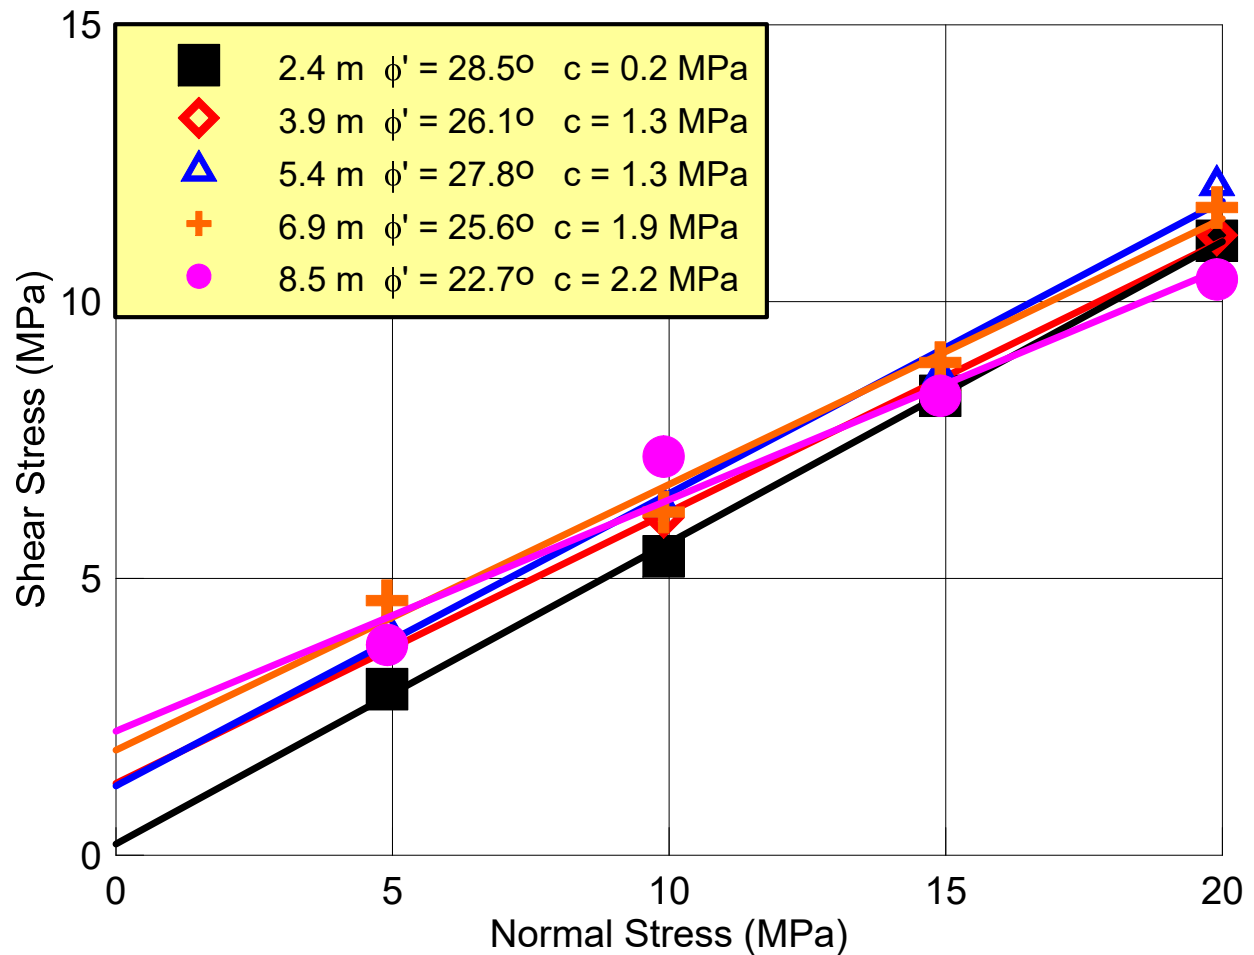

Figure 4: Typical Rock Shear Test Results
The field crew threads the hydraulic lines connecting the pump to the shear head through the wireline casing, protecting the hydraulic hoses. After the driller cores the rock with an NX core barrel, he/she lowers the rock borehole shear head that is attached to the wireline casing, which serve like drill rods to the desired test depth. The engineer records the initial or baseline readings of the shear and normal stress gauges. The baseline reading of the shear gauge increases for deeper tests due to the extra weight of the wireline casing. After the engineer applies the first normal stress increment to the rock (at least 5 MPa to ensure that the plates fully embed into the rock), he/she slowly hydraulically pulls the shear head upward and measures the maximum shear resistance as the rock breaks. He/she retracts the shear plates to their fully closed position. If the rock smears rather than chips, which is usually the case for shale and siltstone, the engineer rotates the shear head 45° and tests fresh rock at a higher normal stress. He/she continues to shear the rock for a total of four (4) sets of normal/shear stress data points. If the rock chips, the driller will need to remove the shear head and the engineer clean it. The driller will then lower the shear head to a depth of 50 mm or 2 inches above the previous test depth to make sure that fresh rock is tested. Typical rock shear results are shown in Figure 4.